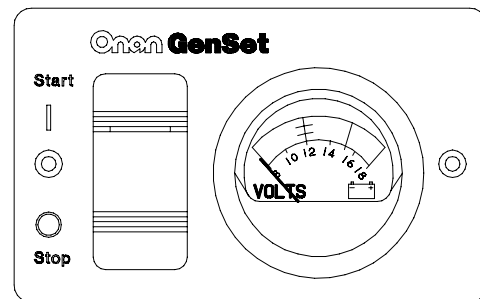

FIGURE 2-5. REMOTE SWITCH / DC VOLTMETER
- Remote switch / status lamp and DC voltmeter (Figure 2-5).